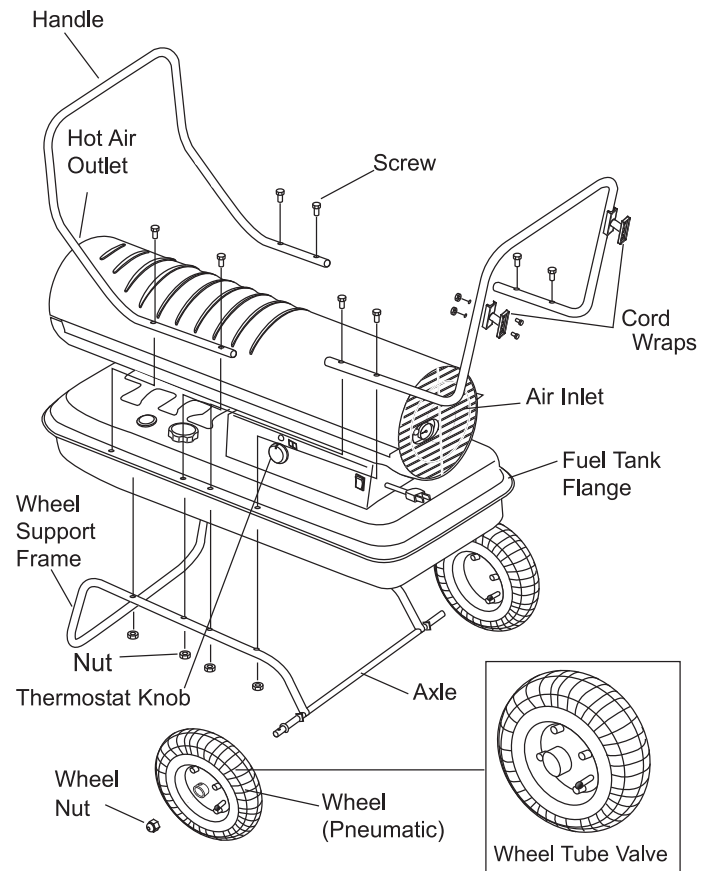

Figure 7. Assembly of Models MH-135T/190T/215T-KFA
1. Slide axle through holes in wheel support frame. Slide wheel bushings and flat washer (A) on to each end of axle.
2. Slide wheels on to each axle, being sure that the valve stem (if pneumatic) is to the outside (**see Figure 7**).
5. Take the front handle and align the mounting holes with the corresponding holes in the tank flange/wheel frame. Slide a screw (A) through the holes and loosely attach a nut. Repeat for the other 3 holes, then fully tighten all 4 screws and nuts.
1. Align holes in cordwrap with corresponding holes in rear handle. Insert screws (B) through holes, attach nuts and tighten (**see Figure 7**).